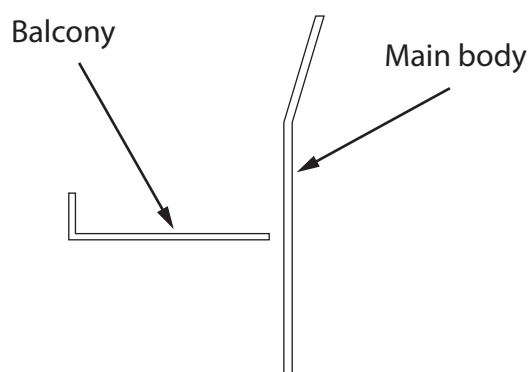

Figure 12
- (b) Figure 12 shows a side view of the flat part of the balcony separated from the main body of the model windmill.